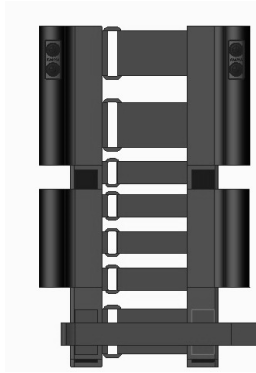

Figure 4.58
4.16.4 The lower backrest upholstery should be adjusted according to the backrest height setting. While the backrest height is 37 cm and 40 cm, there is no need to add extra extended webbing. While the backrest height is 43 cm, it should be added for extra support. (See Figure 4.58, 4.59 and 4.60)